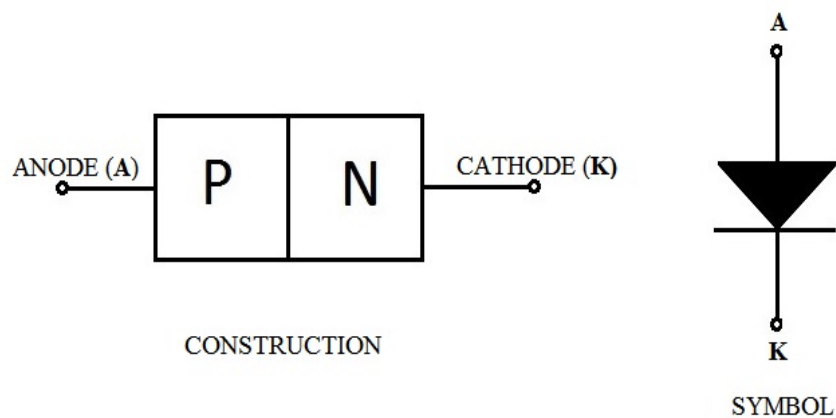

Fig. 4.1. Diode
- The symbol and construction of a diode is shown in Fig. 4.1.